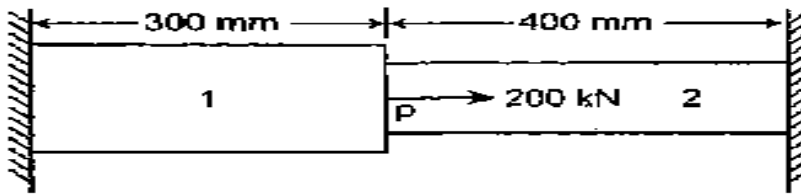

Figure 12.(a)
| 12. (a) | Consider a bar shown in figure 12 a. An axial load of 200kN is applied at a point P. Take $A_1 = 2400 \text{ mm}^2$, $E_1 = 70 \times 10^9 \text{ N/m}^2$, $A_2 = 600 \text{ mm}^2$, $E_1 = 200 \times 10^9 \text{ N/m}^2$. Calculate the nodal displacement, stresses and reactions in the given bar. | (14) | 2 | 3 |
Figure 12 b.